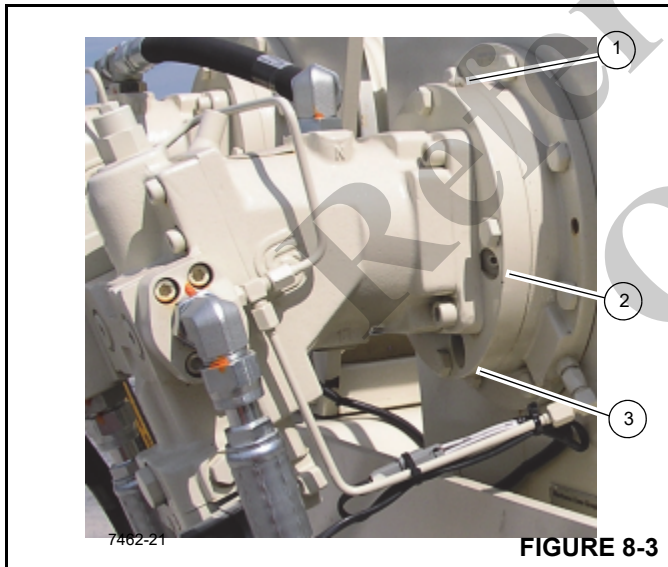

FIGURE 8-3
To check the hoist brake oil, remove the inspection plug (2, Figure 8-3) and visually inspect the oil level. The oil should be visible within the bottom of the inspection hole. If more oil is needed, add through the vent/fill (1) plug hole until oil is at the bottom level of the inspection hole.
- Remove the drain plug (3), (Figure 8-3), inspection plug (2) and vent plug (1).
- Reinstall drain plug (3) and add oil at the brake oil vent hole (1) until oil is at the bottom level of the inspection hole (2). See (Table 8-2). The hoist brake fill capacity is 0.23 liter (.25 quart).
- Install the inspection plug (2) and the oil vent and fill plug (1).